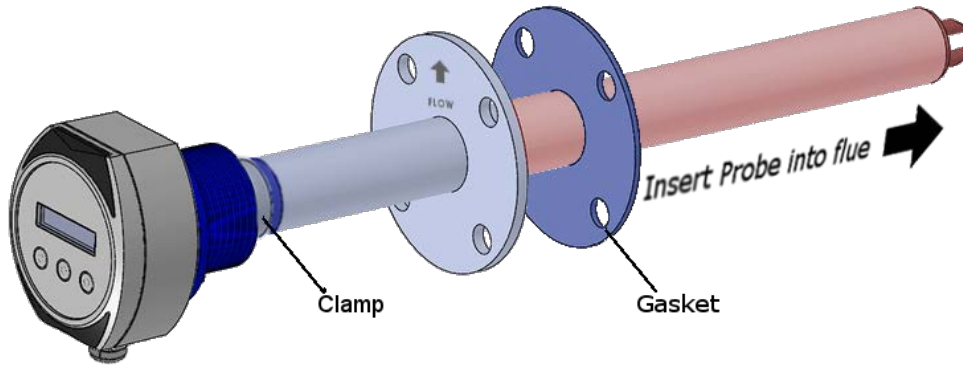

Figure 5-9 - Probe Installation
5. Ensure the head housing is orientated such that the cable gland faces downwards. If necessary, loosen the clamp and carefully adjust the housing orientation; refer to Figure 5-9. Tighten the clamp securely; torque to 5Nm.